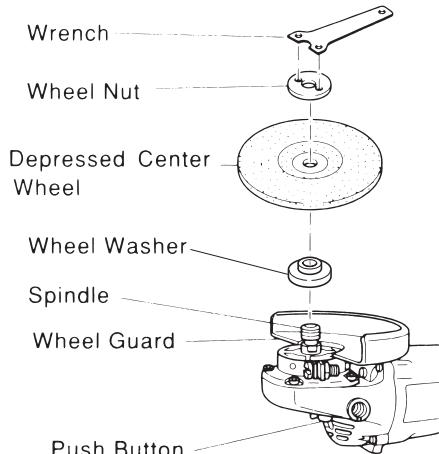

Fig. 3
Make sure that the push button is disengaged by pushing push button two or three times before turning on the grinder.(Fig.3)
- (1) Turn the disc grinder upside-down so that the spindle is facing upward.
- (2) Align the oval-shaped indentation of the wheel washer with the notched part of the spindle, then attach them.
- (3) Fit the protuberance of the depressed center wheel onto the wheel washer.
- (4) Screw the wheel nut onto the spindle.
- (5) While pushing the push button with one hand, lock the spindle by turning the depressed center wheel slowly with the other hand.
- Tighten the wheel nut by using the supplied wrench as shown in Fig.3.